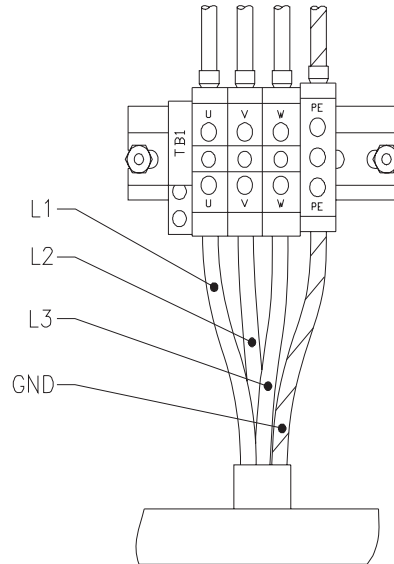

Figure a-3 Power Cable Connections to TB1
4. Connect leads L1 to U, L2 to V, and L3 to W terminals of TB1 (see Figure a-3). Ensure that all connections are tight to avoid excessive heating.
5. Connect the ground lead to terminal marked PE at TB1 (see Figure a-3).